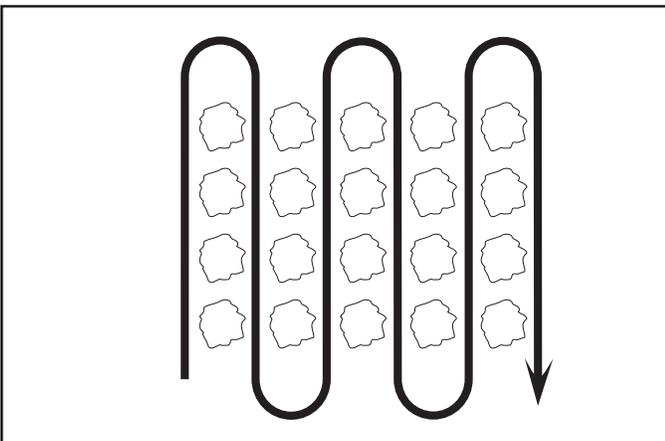

FIG. 16
CULTIVATING (See Fig. 16)
- Cultivate up and down the rows at a speed which will allow tines to uproot weeds and leave the ground in rough condition, promoting no further growth of weeds and grass (See Fig. 16).